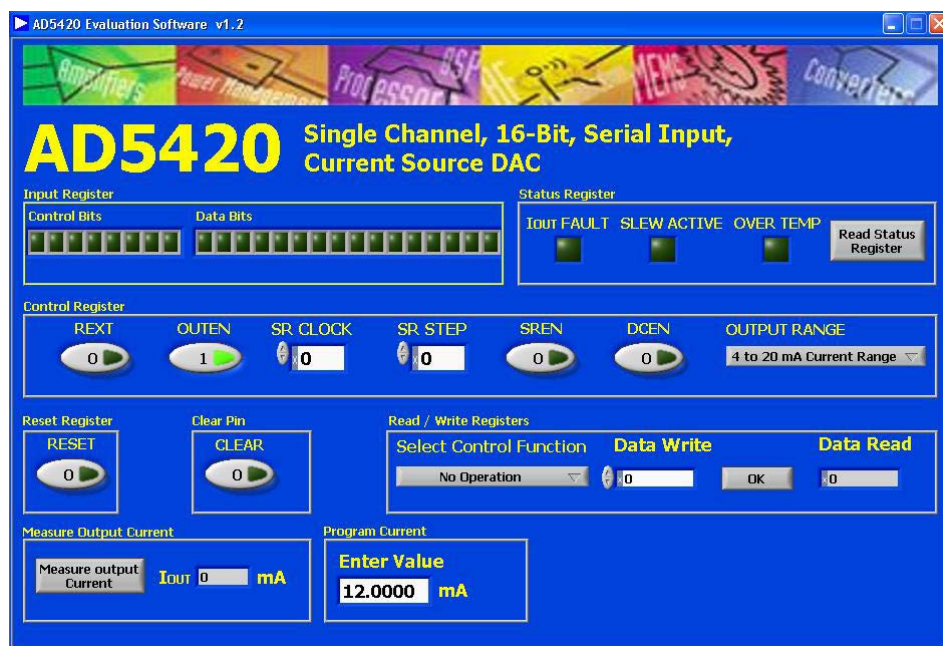

Figure 3. Main Window
1. From the **Start** menu, select **Analog Devices – AD5420/AD5420 Evaluation Software**. The main window of the software then displays (see Figure 3).